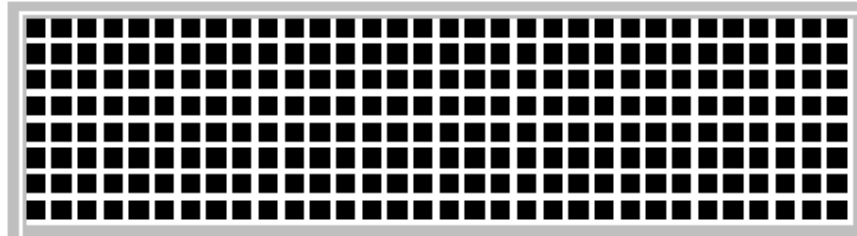

Fig 12-5
- Dot Matrix Mode. To simulate dot matrix type LCD panels. Fig 12-5 shows the dot matrix screen.